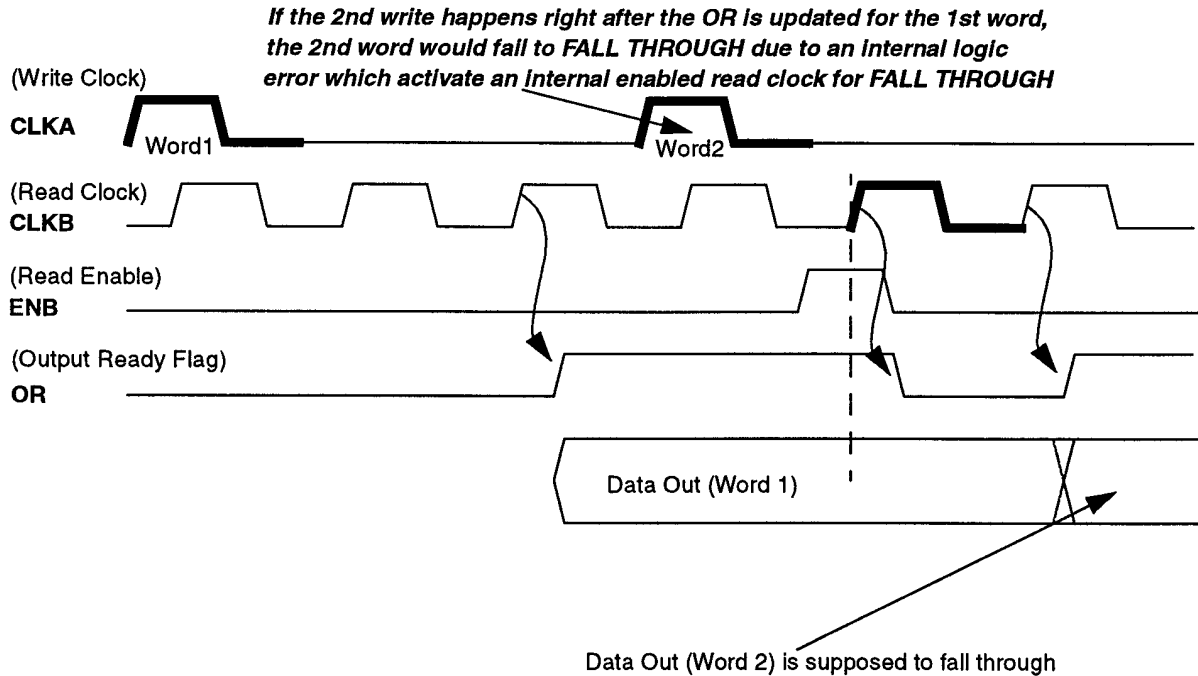

Figure 1.
The First Word Fall Through (FWFT) mode was found to have an issue with its logic when there is only one word left in the FIFO. If a new word is written into the FIFO right after the Output Ready (OR) flag is updated when the final word in the FIFO is read, this new word will fail to fall through; a duplicate of the previous word will be at the output instead. The new word will only appear at the output at the following clock cycle. The timing diagram (figure 1) below illustrates the issue: